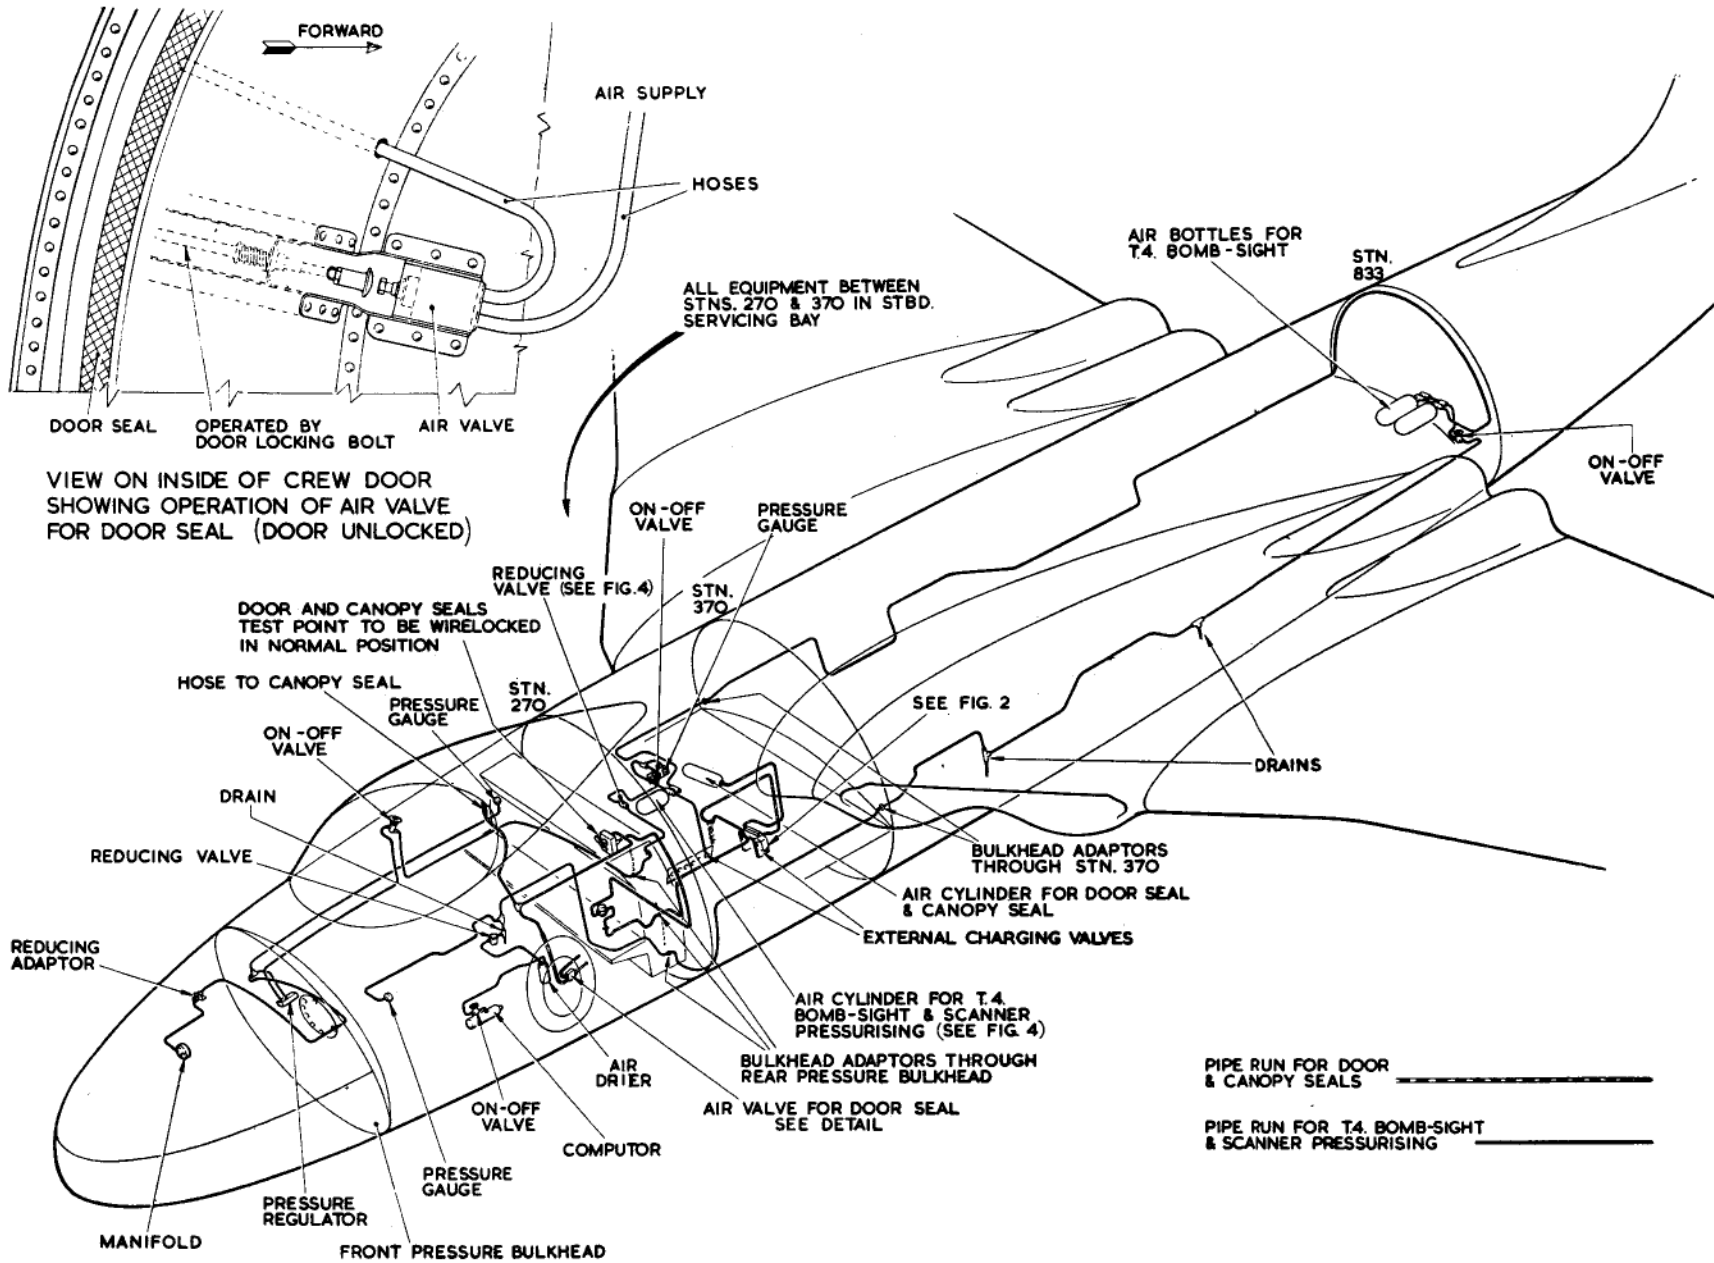

Fig. 1. Pneumatic systems
(fig. 1 and 3)
Door seal valve (fig. 1)
BOMBSIGHT INSTALLATIONS (fig. 1)
T.4 BOMBSIGHT INSTALLATION (Mod. 1648) (fig. 1 and 4)
(1) With the bottles fully charged, and the ON/OFF valves in the OFF position, connect a pressure gauge 0–5 lb. per sq. in. to the piping on the inlet side of the manifold (*fig. 1 and 4*).
(2) Turn ON the air supply, check that there are no leaks and the pressure gauge reads 1.5 lb. per sq. in.